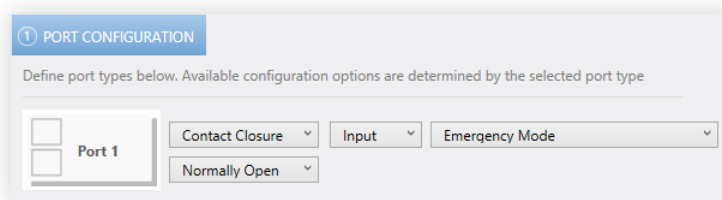

fig. 38
- 2 **Configure a contact-closure analog input on an N3 satellite for emergency mode.** Configure your port so it looks like the example in fig. 38—but note that whether it should be “normally open” or “normally closed” will depend on the emergency device.